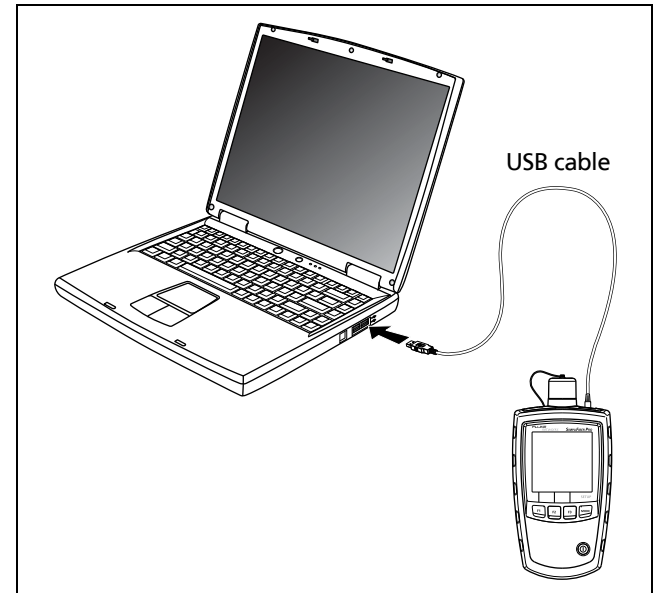

Figure 14. Connecting to a PC
- 3 Connect the meter to the PC with the USB cable provided, as shown in Figure 14.